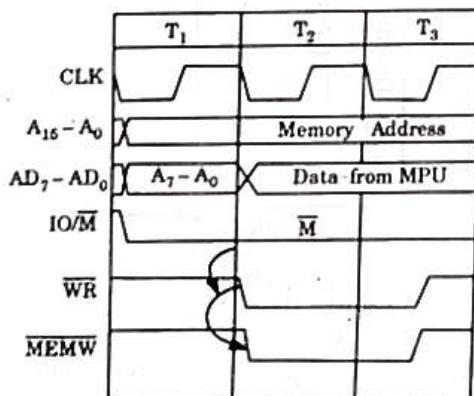

Fig. 1.20.3. Timing diagram of the memory write cycle.
5. During write operation into the register microprocessor performs similar steps as in read operation. Fig. 1.20.3 shows memory write cycle, during write operation microprocessor places the address and data and asserts the IO/M signal.